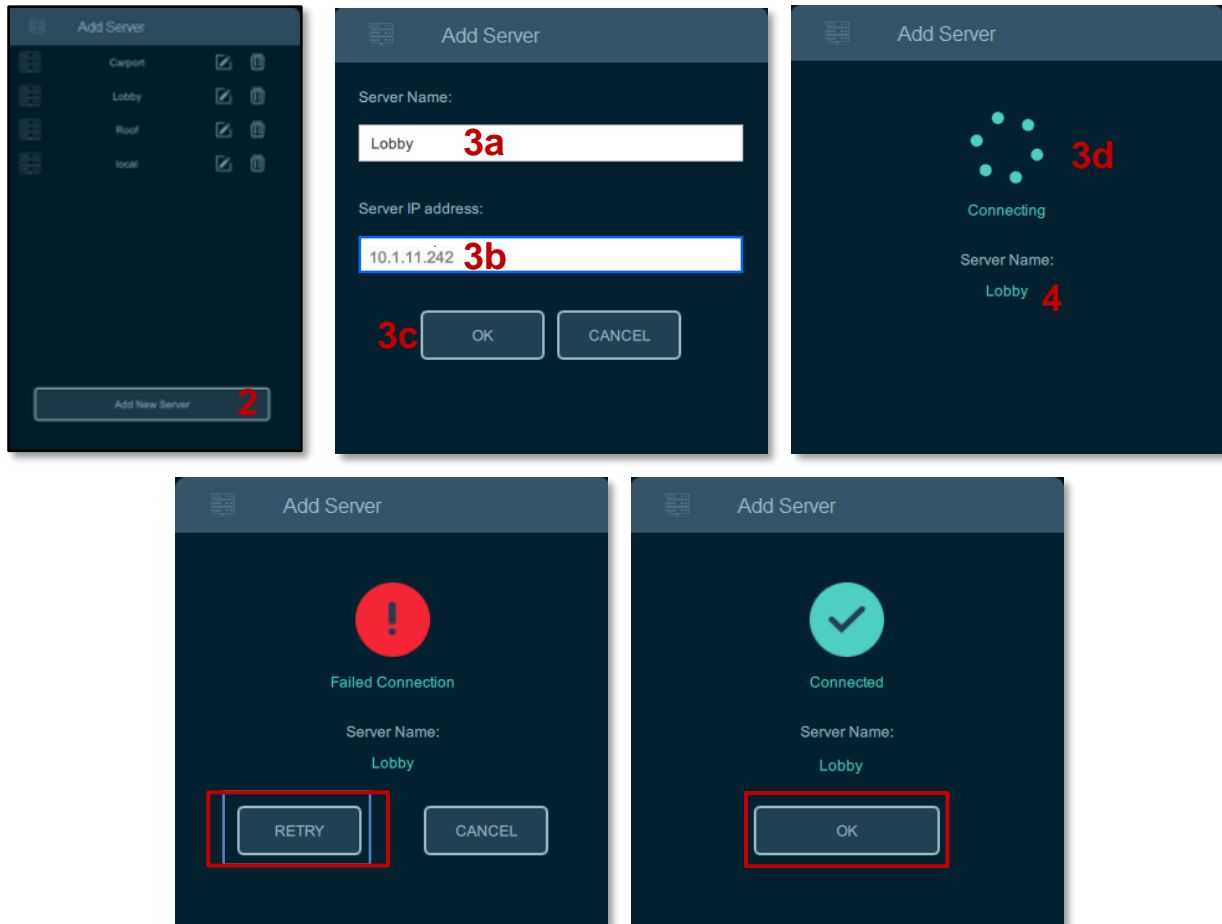

Figure 19. Add Server Sequence
2. From the **Add Server** panel, click the **Add New Server** button. See Figure 19. Add Server Sequence.